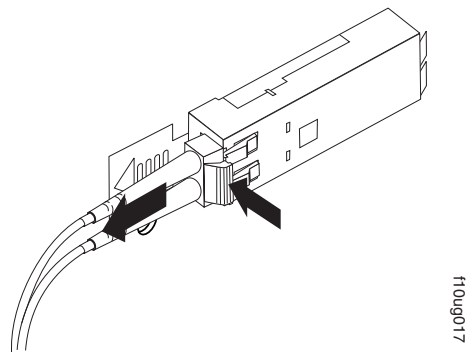

Figure 35. Removing the LC-LC fibre-channel cable
2. Carefully pull on the connector to remove the cable from the SFP module, as shown in Figure 35.